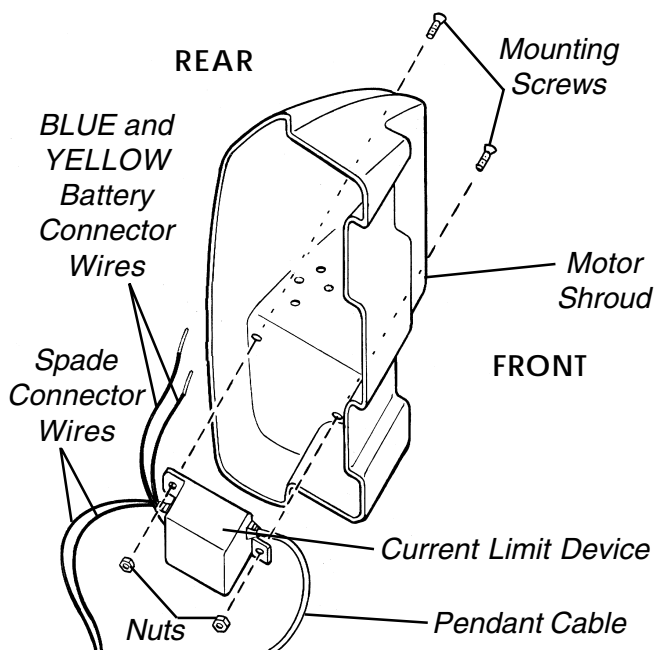

FIGURE 6 - REMOVING CURRENT LIMIT DEVICE
### Removing Current Limit Device (FIGURE 6)
### Installing NEW Current Limit Device (FIGURE 6)
1. Position the NEW current limit device on the inside of the motor shroud with the blue and yellow battery connector wires towards the REAR of the shroud and the pendant cable towards the FRONT of the shroud as shown in FIGURE 6.
2. Align the mounting holes of the current limit device and the motor shroud and secure with the two (2) existing mounting screws and nuts. Tighten securely.